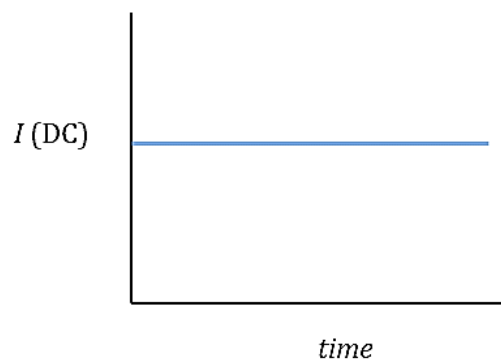

Fig. 1
Direct current (DC) refers to a current that does not change direction with time. A Battery is one sort of a DC current source. A plot of a constant DC current versus time represents a horizontal straight line as shown in **Fig. 1**.